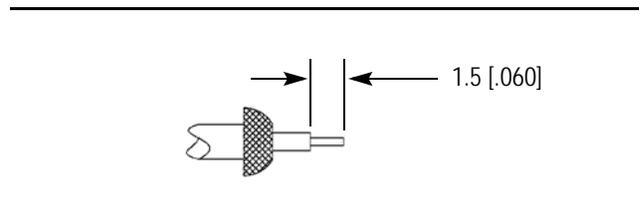

Figure 4
3. Fold back the cable braid and strip to the dimensions shown in Figure 4.